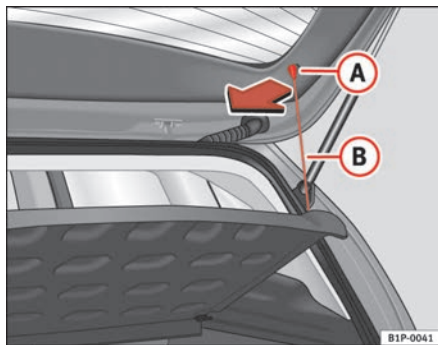

Fig. 106 Luggage compartment cover
- Disengage the loops ⇒ fig. 106 (B) from the retaining pins (A).